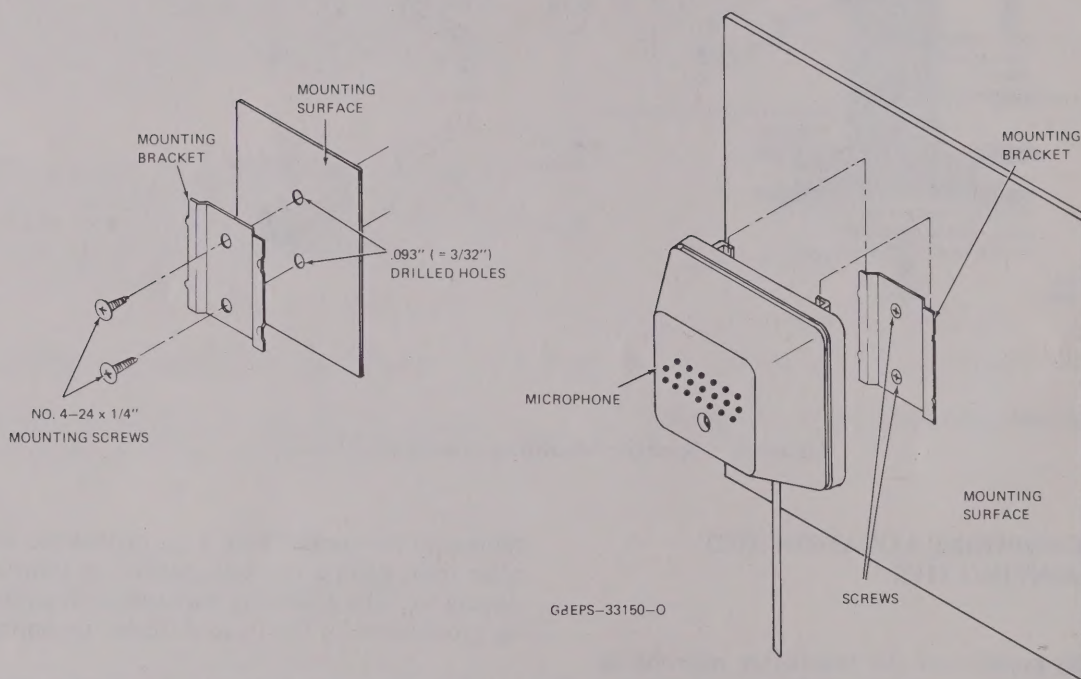

Figure 10. Screw-Mounting Bracket Installation
two (2) mounting screws which secure the bracket to the desired mounting surface, such as the windshield pillar, dashboard, and others. Refer to Figure 10 while performing the following procedure: